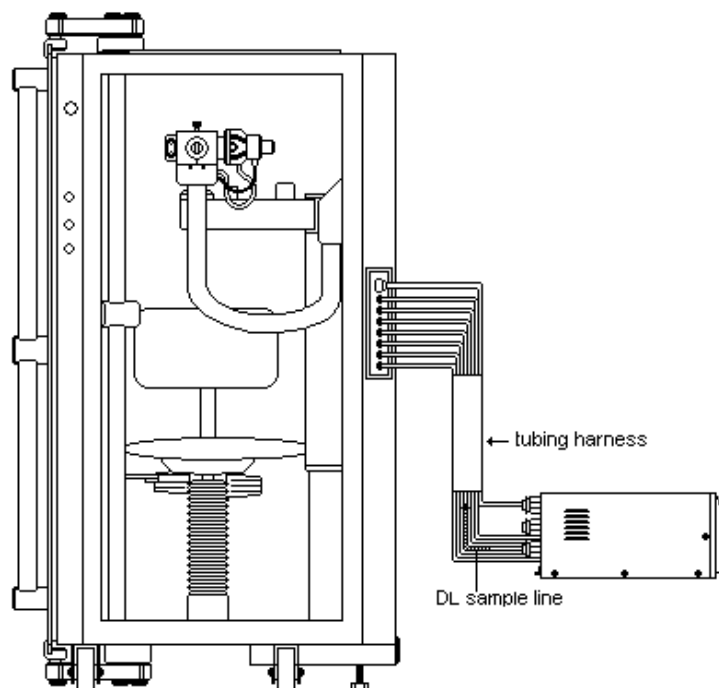

Figure 1-8. Connecting the Owl to the BP^D Plethysmograph
5. Attach the tubing leading from the regulator to the gas inlet port at the rear of the Owl (labeled *CO* or *DL*; refer to Figure 1-8). Press down on the metal quick-release tab on the inlet port and, while holding the tab down, slide the tubing end into the inlet; then release the tab. Likewise, to remove the tubing, press down on the tab and slide the tubing end from the inlet port.